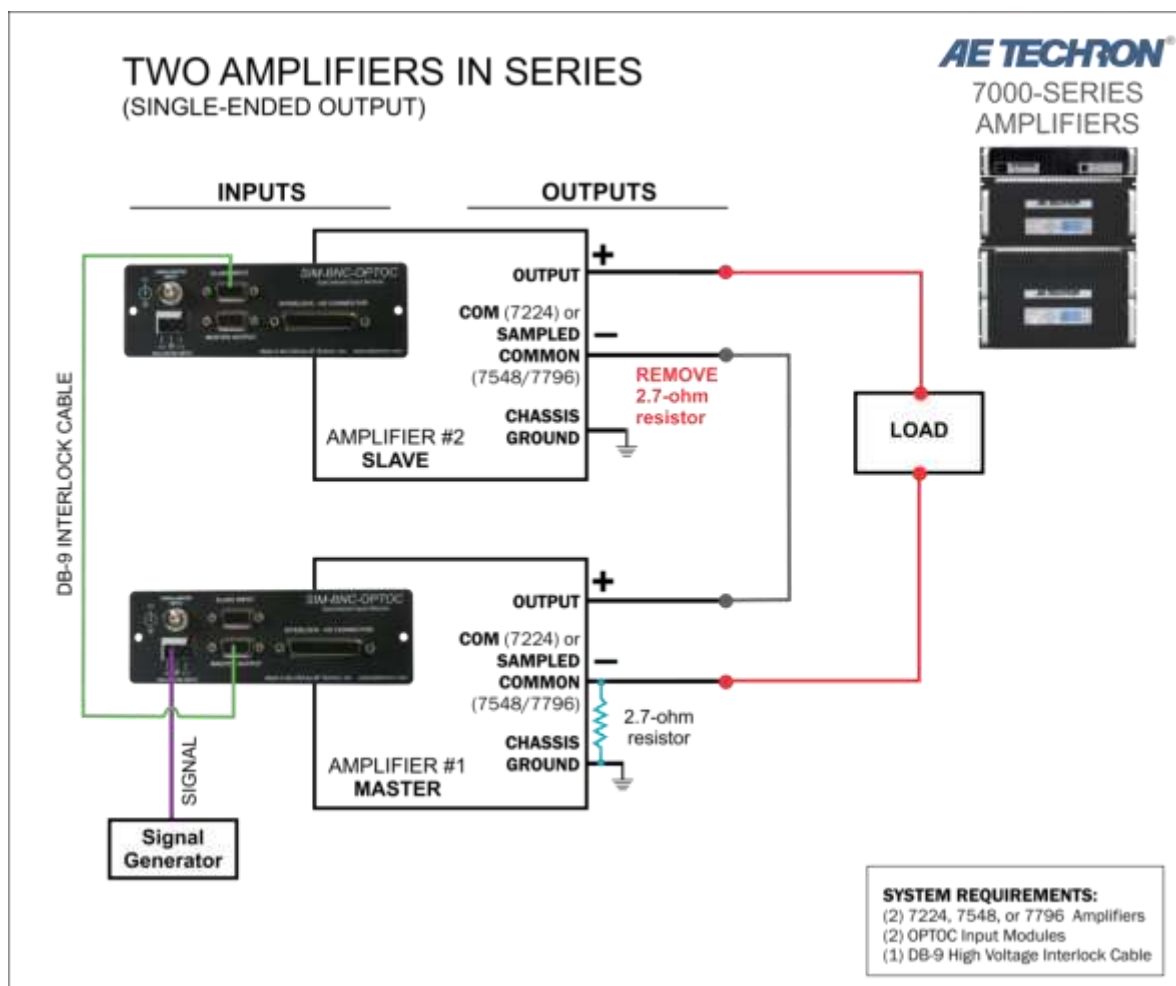

Figure 3.16 – Two Amplifiers in Series – Single-Ended Configuration
5. Check the completed system diagrams in **Figure 3.16 or 3.17** to verify proper system setup.